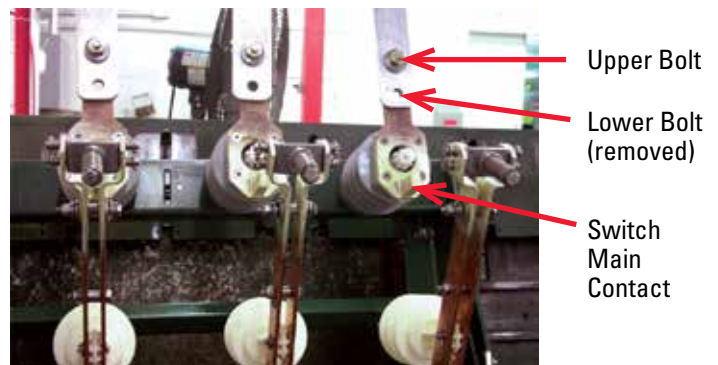

Figure 2. Upper bus bolt loosened; lower bus bolt removed and retained.
- a. Loosen (only) the upper bolt of the two (2) 1/2" (3/4-inch drive) bolts that secure the bus to the switch main contact. See Figure 2.